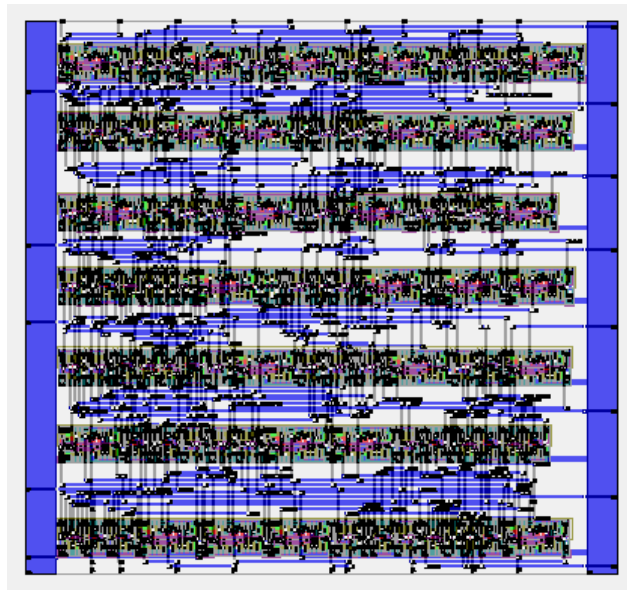

Figure 1 Example Standard Cell Block Layout
10. Build your blocks so that you can efficiently strap your rows with VCC / GND as shown in Figure 1 (layer colors in this example are not correct). Note that the power strapping should be at least  $30 \lambda$  wide. The final connections from the straps to the VDD / GND pads should be at least  $40 \lambda$  wide.